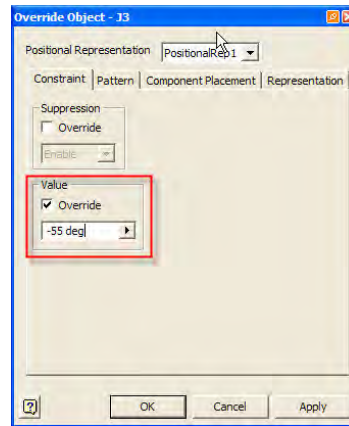

Figure 5 - PosRep Dialogue
5. You are now presented with the PosRep dialogue. There are 4 tabs on the dialogue box. Each changes a different aspect of a PosRep. Depending on what you have selected (a constrain, component, pattern etc..) some tabs will be grayed out. (Figure 5)